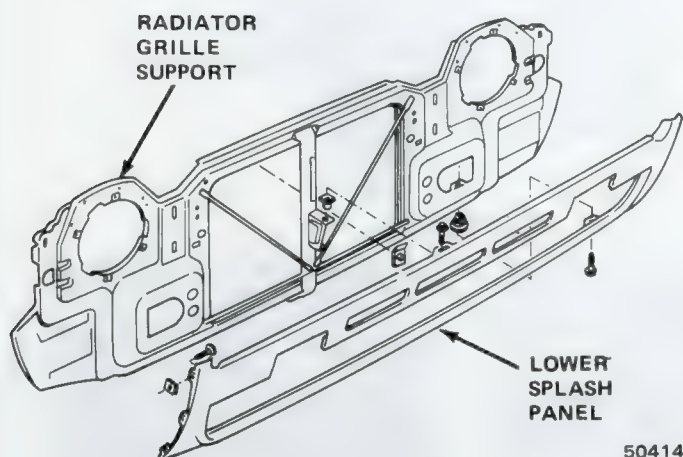

Fig. 3F-8 Lower Splash Panel—Pacer
- (1) Remove front bumper.
- (2) Remove headlamp lower doors.
- (3) Remove parking lamps.
- (4) Remove screws attaching fenders to splash panel (fig. 3F-8).
- (5) Remove screws attaching splash panel to radiator grille frame.
- (6) Remove screws attaching splash panel to center radiator support.
- (7) Remove panel.